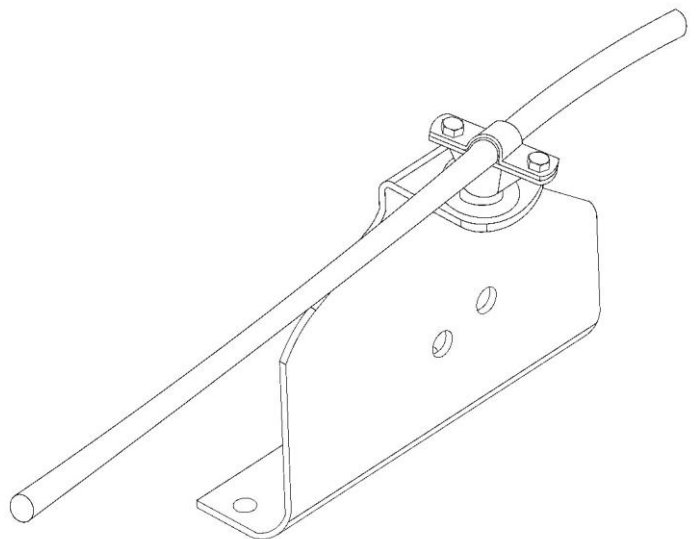

Figure 2.
- Make sure that the Z and RP-bracket parts are in the position shown in the figure (Figure 2).